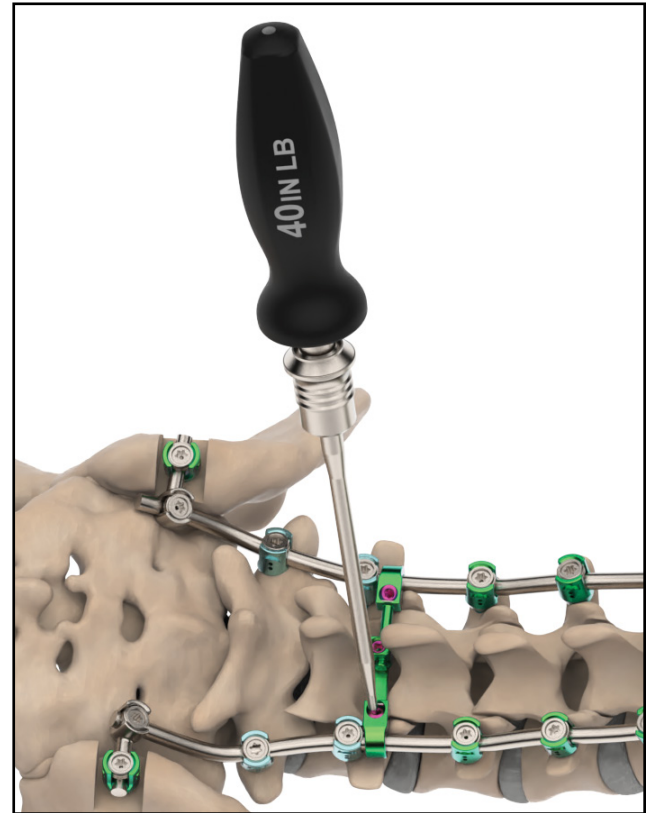

Figure 5.6
5. Once the correct position of the connector is established on the rods, perform final tightening on both sets screws and midline screw using the same Torque Limiting 40 in-lb. Handle and CrossLynxx Driver. Tighten by turning the handle clockwise until it clicks (Figure 5.6).